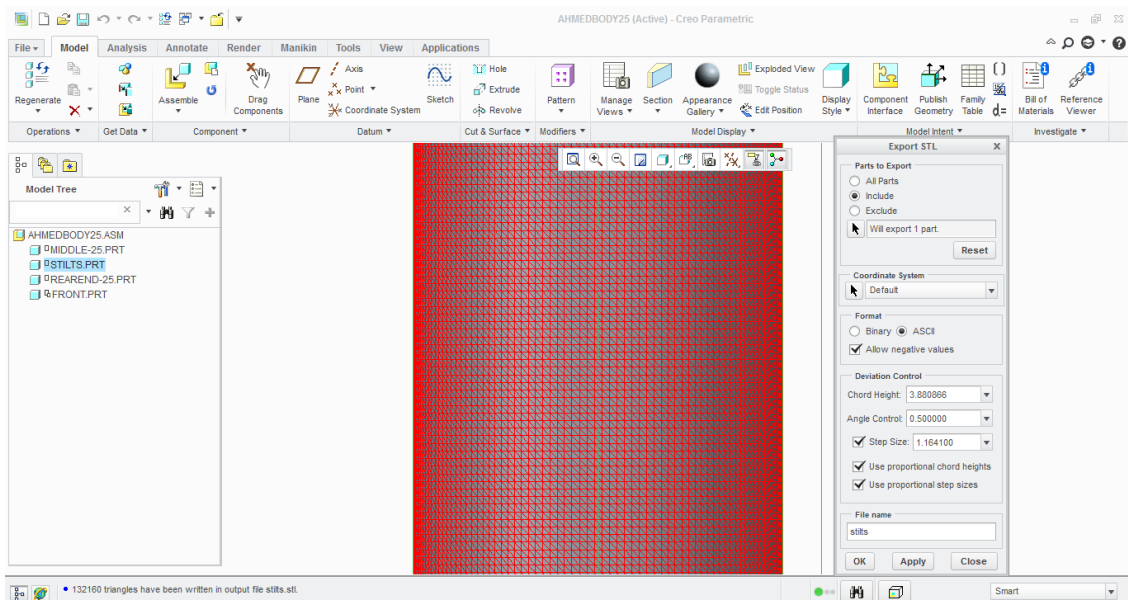

Figure 1.12: Step 11, specifying the number of vertices and the encoding type.
11. Export one patch at a time; Click on include → the stilts → ASCII → Reduce the step size and the chord height as shown in figure 1.12.